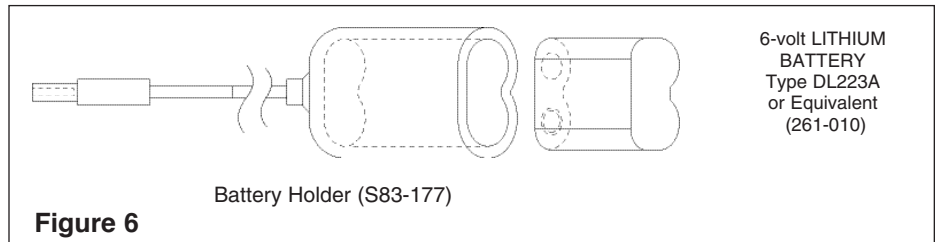

Figure 6
1. Mount the battery holders (with batteries) in a convenient location in the pedestal (ref. Figure 6).
Disconnect the plug from the battery to the circuit board of the problem valve. Remove the three #8 Phillips-head screws that hold the solenoid valve assembly together. Be careful not to lose the armature or spring (see Figure 9 on page 11). Remove the diaphragm. Remove any particles that are trapped between the diaphragm and the valve seat. Rinse off the diaphragm and inspect for damage. Make sure the center orifice and both small side orifices are open. Reassemble in reverse order, being careful not to overtighten the Phillips-head screws or you may crack the plastic valve body. Tighten until the armature plate makes contact with the plastic body. Reconnect the battery plug per Figure 6 on page 7. Turn on water supplies to the unit.